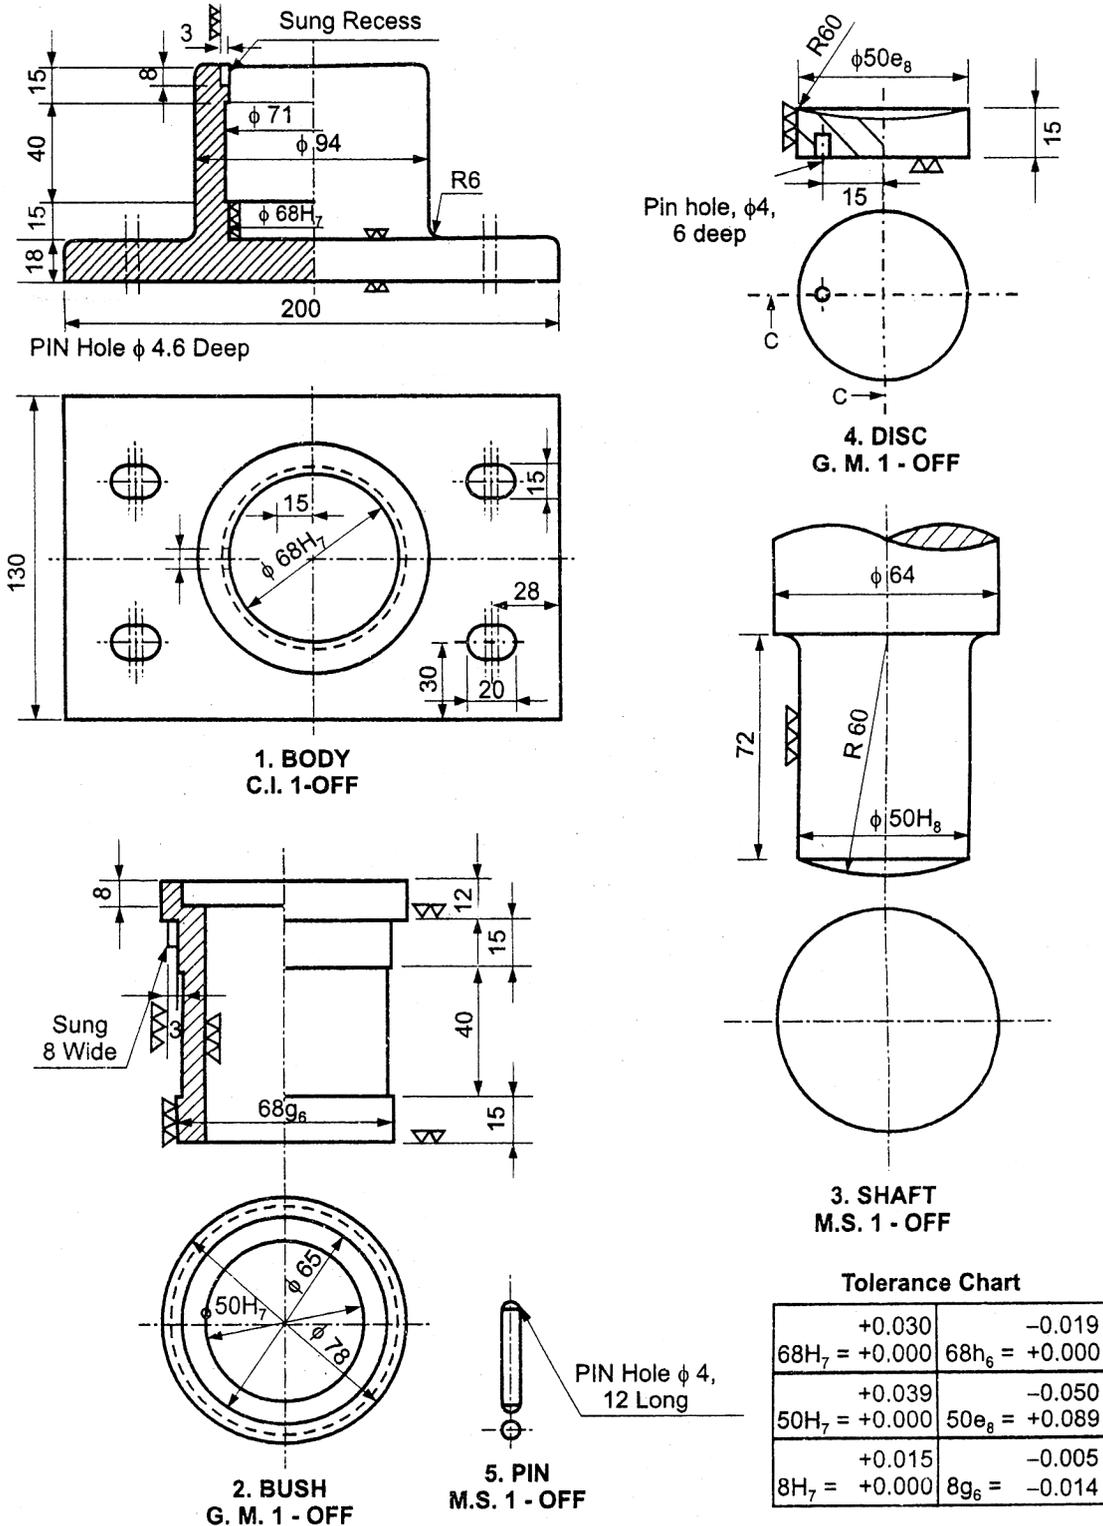

Fig. No. 6
4. a) Figure No. 6 shows details of foot step bearing. Draw S.F.V. and T.V. of an assembly of foot step bearing and part list. 16